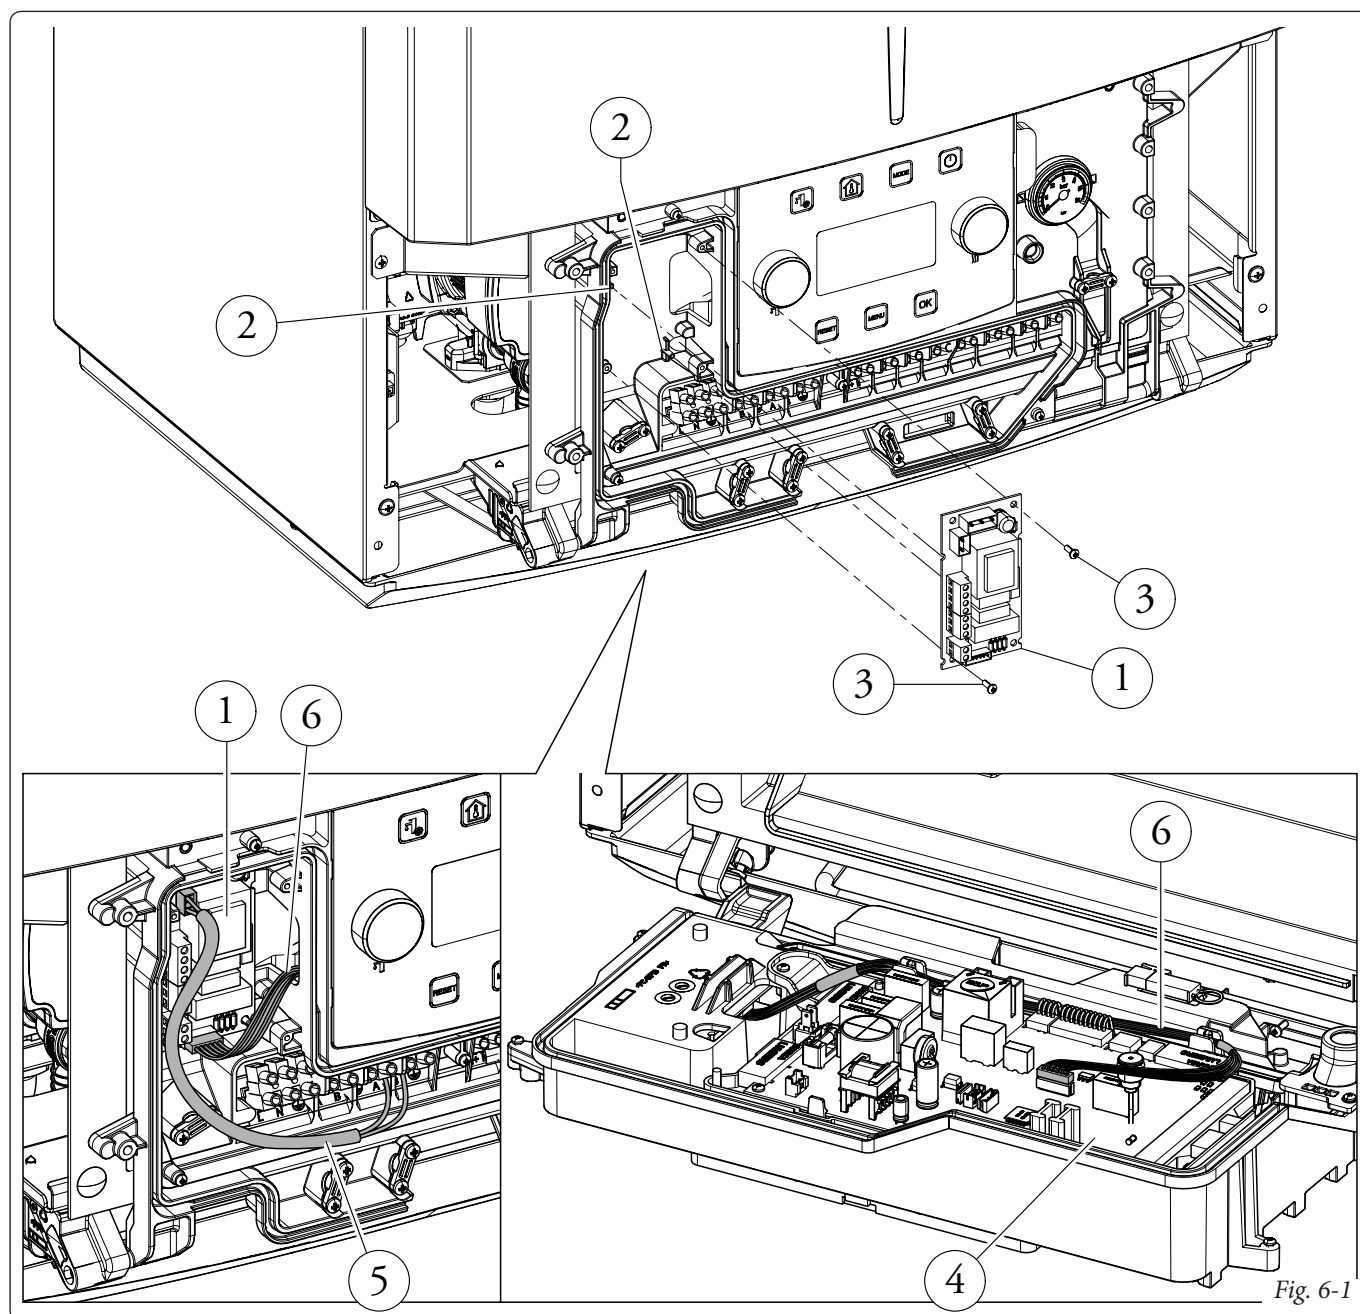

Fig. 6-1
- Open the control panel compartment to install the relay board (1).
- Mount the board making the male pin (2) match the hole in the board (1) and fix it using the cross-head screw (3) (see figure 6-1).
- Make the electric connections between the relay board (1) and boiler electrical connection compartment (for 230V power supply) and between relay board and boiler P.C.B. located in the rear part of the boiler panel (for control signals) using the relative wiring composed of two cables supplied with the kit.
- The connection cable (6) between the relay board (1) and the boiler board (4) must comply with the path (see fig. 6-1).
- The power supply (5) must be connected to terminals A and B (see fig. 6-1).